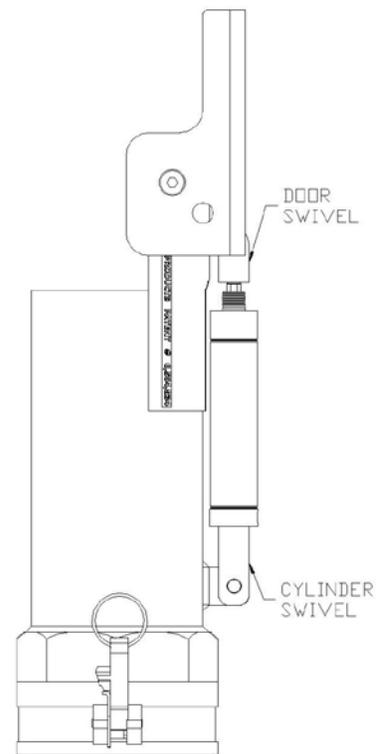

Figure 4
6. Adjust the depth of the cylinder rod into the door swivel so that the door is at 180° when the door is fully open, as shown in Figure 4.